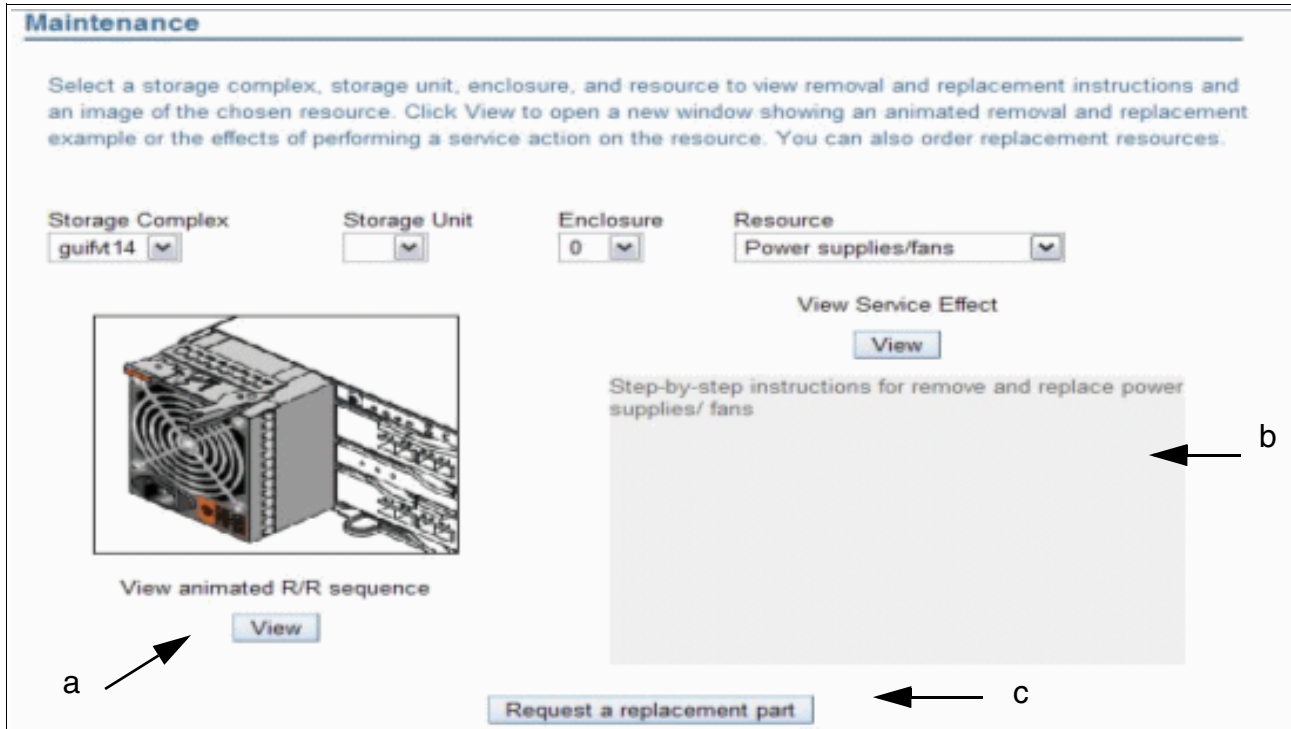

Figure 3-7 Power supply replacement via the GUI
1. Review the online component removal instructions. Figure 3-7 on page 59 shows an example of the screen the user may see. On this screen, users are given the ability to do things like: